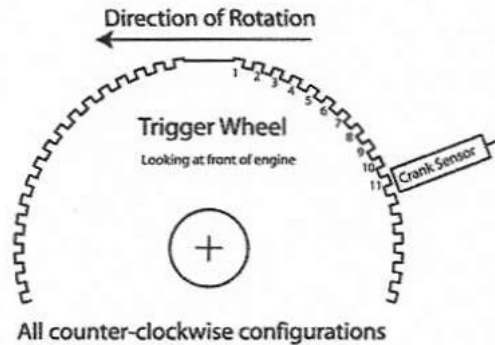

Figure 32: Crank Shaft Trigger Wheel Positioning
- g. Loosen the CSTW and rotate it until the alignment pin (remember the dowel/pop rivet assembly which is still in the pick-up holder) lines up with the hole in the CSTW. The alignment pin can be used to lock the CSTW position. **This should place the trailing edge of the 11th tooth past the two missing teeth** directly under the center of where the magnetic pick-up will go. Reference Figure 32 for sensor alignment and positioning.